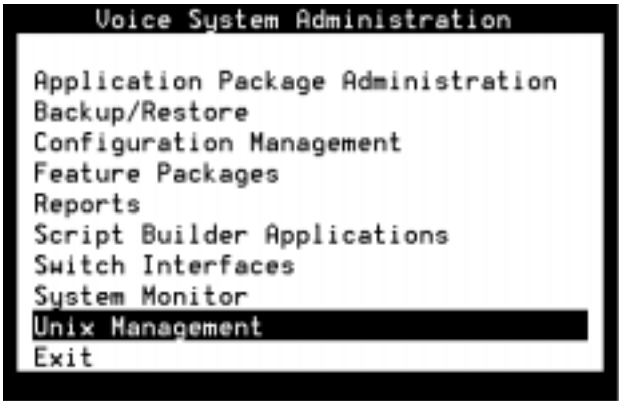

Figure 3-4. Voice System Administration Menu
- 1. Start at the Voice System Administration Menu (Figure 3-4)
1. Starting at the Voice System Administration Menu (Figure 3-4), select